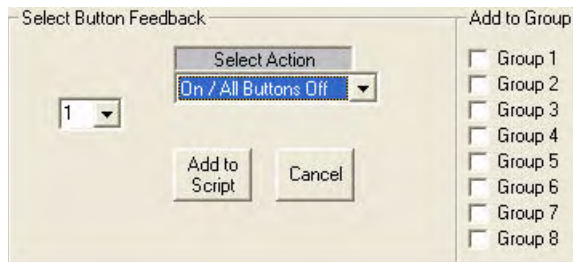

FIG. 85 Select Button Feedback - Select Action
- a. Select a button action from the *Select Action* drop-down menu (FIG. 85):